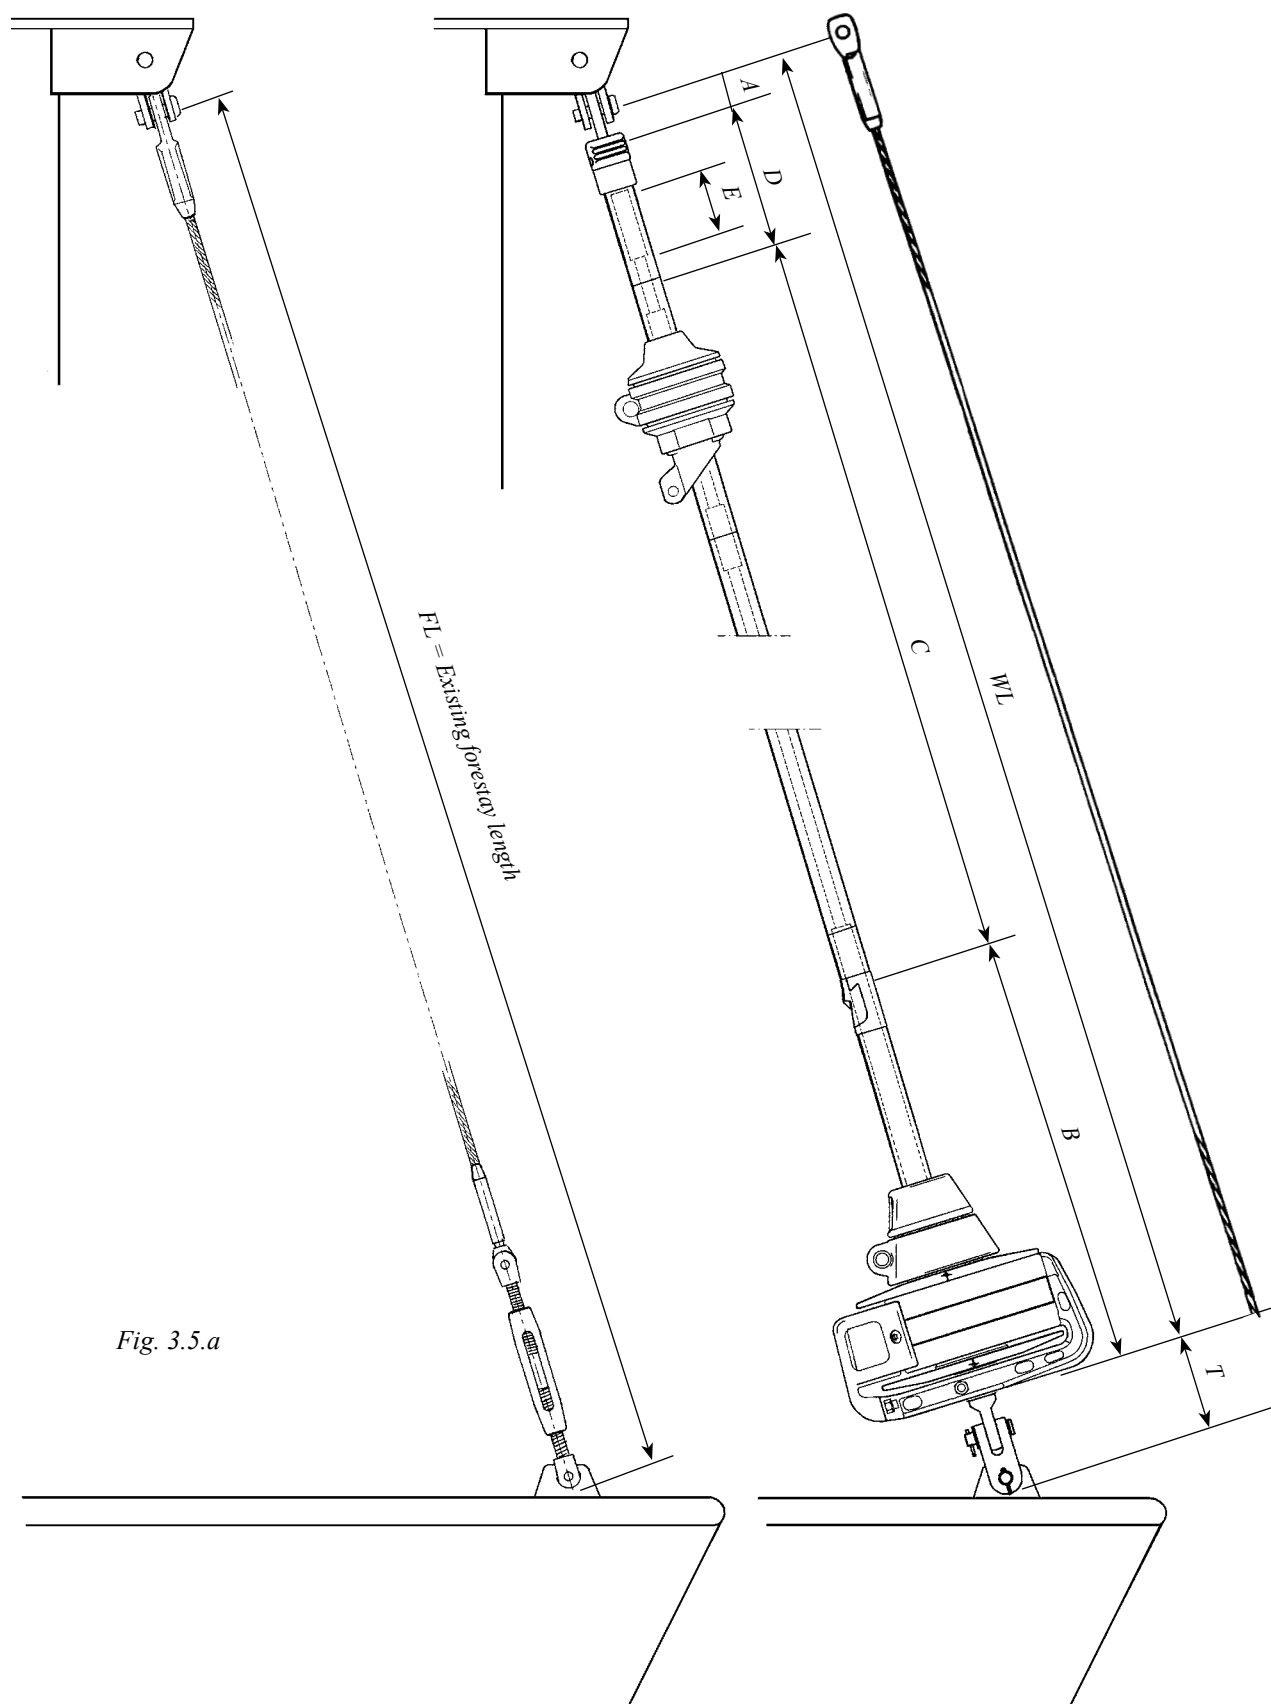

Fig. 3.5.a
16. Check the length FL of the stay acc. Table 1 (3.5.1) & fig. 3.5.a. Check that the setting is the same as the H-measurement as in table 1.